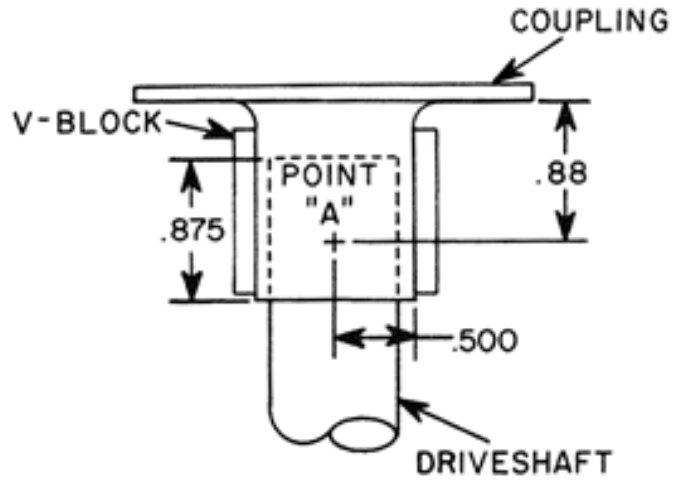

Fig. 10-18
- (1) Ream the bore on one end of driveshaft with a .640-inch straight reamer to remove paint. Ream 2" into bore and deburr the end of the shaft.
- (2) Clean the bore ends of the driveshaft and O.D. of aluminum plugs with Loctite Primer T.
- (3) Apply epoxy prime (MIL-PRF-23377 Type I Class 2C or Class N) to the O.D. of aluminum plug, heat driveshaft to approximately 250°F/121°C and tap plug into driveshaft until it is flush with the end of the shaft.
- (4) Drill the aft coupling as follows: (see Fig. 10-18)
- (c) Mark and center-punch Point "A" of Fig. 10-18 using dimensions given.
- (11) Ream the forward end of the driveshaft with .640-inch reamer to remove paint.
- (12) Drill the forward coupling to the driveshaft following the procedure in step (4) (Fig. 10-18).